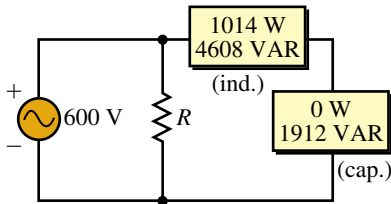

FIGURE 17-45
23. For Figure 17-45, $S_{\text{gen}} = 4835 \text{ VA}$. What is R ?